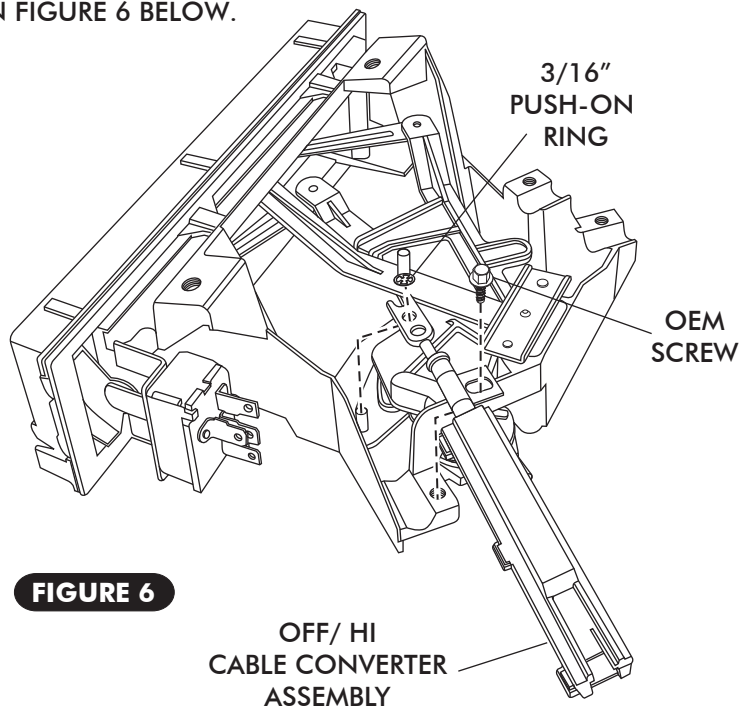

FIGURE 6
- INSTALL CABLE CONVERTER ASSEMBLY ON THE OFF/ HI LEVER. (SEE FIGURE 6 BELOW.)
- INSTALL CABLE CONVERTER PUSH ROD ONTO OFF/ HI LEVER. (SEE FIGURE 6 BELOW.)
- SECURE CABLE CONVERTER LEVER PUSH ROD ONTO OEM CABLE MOUNTING STUD USING 3/16" PUSH-ON RING AS SHOWN IN FIGURE 6 BELOW.